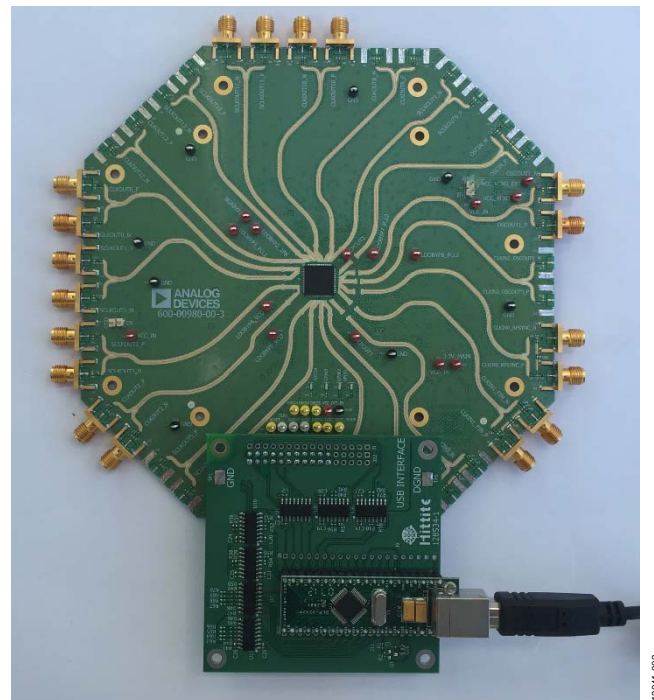

Figure 2. HMC7044 Evaluation Kit Setup
3. Connect the USB interface board to the evaluation board, as shown in Figure 2.